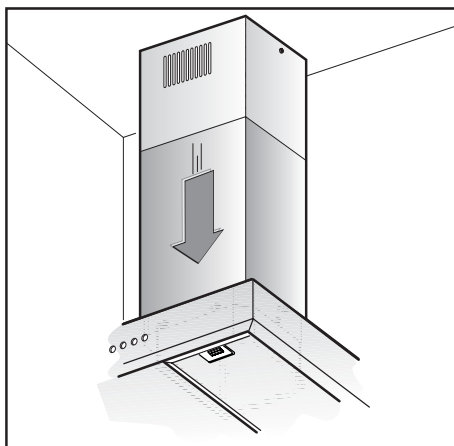

Fig.13
- Remove adhesive tape **L** and rest the lower chimney piece above the cooker hood (Fig.13).